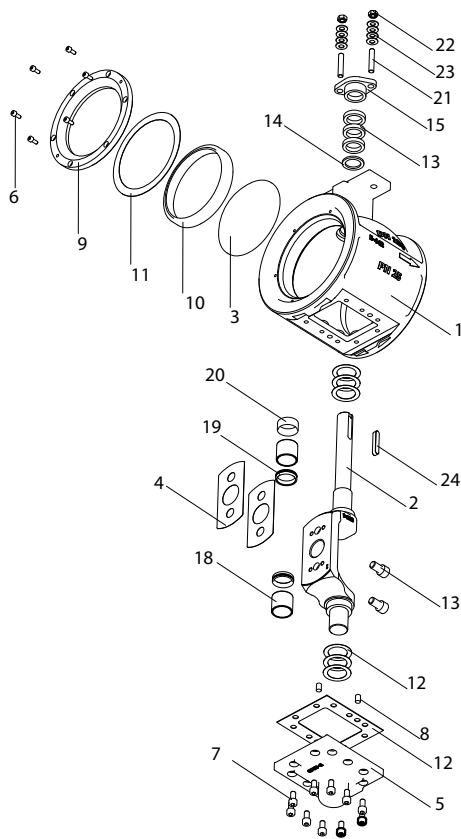

Fig.6-16
1. Undo the screws (→ Fig.6-16/6) or use the special tool (→ Fig.6-14/25) and remove the cover plate (6-14/9,6-16/9).
4. Remove the shims from the shaft. Then mount the bearings (→ Fig.6-14/7, 6-16/17) and the sealing rings (→ Fig.6-14/23, 6-16/23 and the sleeve (if fitted) (→ Fig.6-16/20) from the shaft .